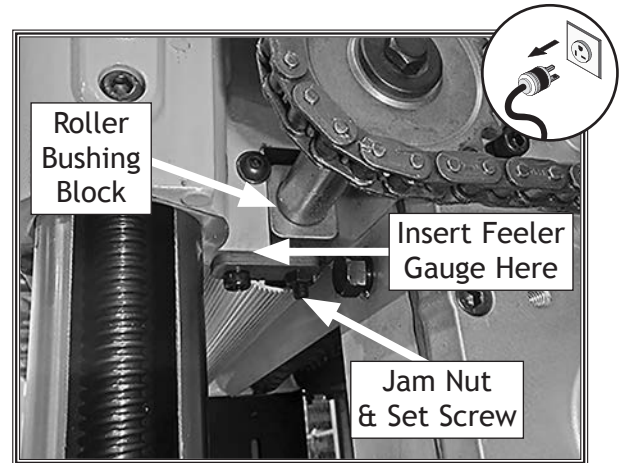

Figure 46. Example of feeler gauge location for adjusting infeed roller height when using wood blocks (one of two locations shown).
9. Loosen jam nuts and set screws on each side of infeed roller (see **Figure 46**).
10. Using a feeler gauge, adjust set screw so it is 0.040" from roller bushing block (see **Figure 46**), then tighten jam nut. Repeat on other side of infeed roller.